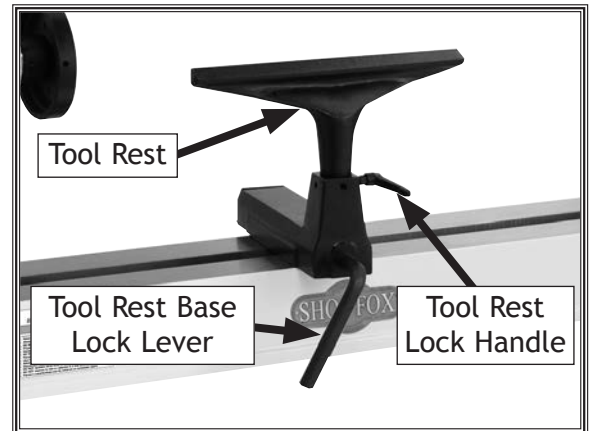

Figure 24. Tool rest controls.
1. Loosen tool rest base lock lever and move tool rest assembly to desired position on lathe bed, as shown in **Figure 24**.
1. Loosen tool rest lock handle (see **Figure 24**).